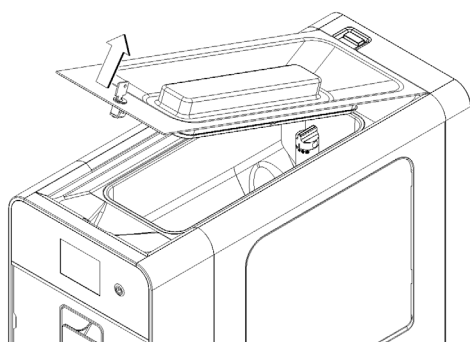

figure 16
- 1 Remove the upper cover. (see figure 16)